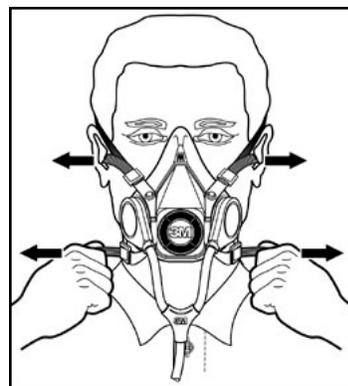

Fig. 22
5. Pull the ends of the head harness and bottom straps to adjust the tightness. (Fig. 22) DO NOT over tighten (Strap tension may be decreased by pushing out on backside of buckles). Perform a user seal check as described in the “User Seal Check” section, before each use.